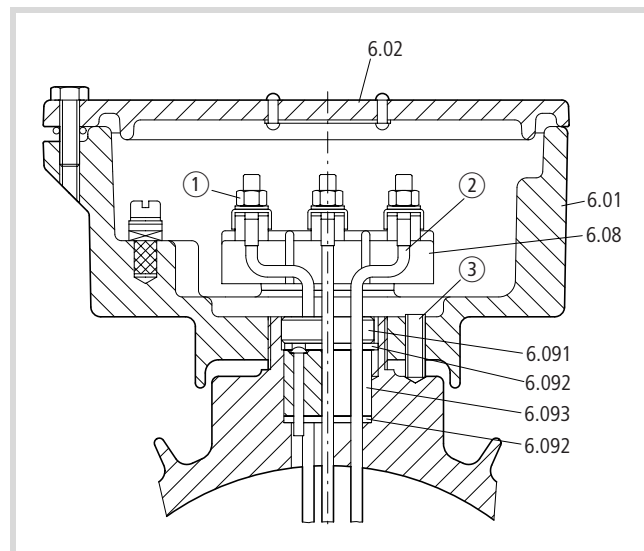
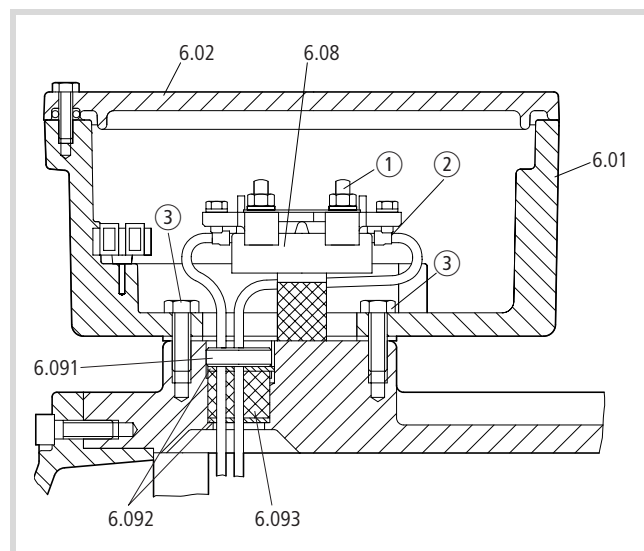

Figure 12: Undoing the terminals from the terminal plate (6.08)
Figure 13: Undoing the terminals from the terminal plate (6.08)
- ▶ Undo the terminals ① (→ Fig. 12) from the terminal plate (6.08).
- ▶ Unscrew the set screw ③ until the terminal box can be rotated easily.
- ▶ Undo the terminals ① (→ Fig. 13) from the terminal plate (6.08).
- ▶ Undo the terminals ① (→ Fig. 12, Page 11 and Fig. 13, Page 11) on the terminal plate (6.08).
- ▶ Sever the winding cables directly on the cable lug ②.